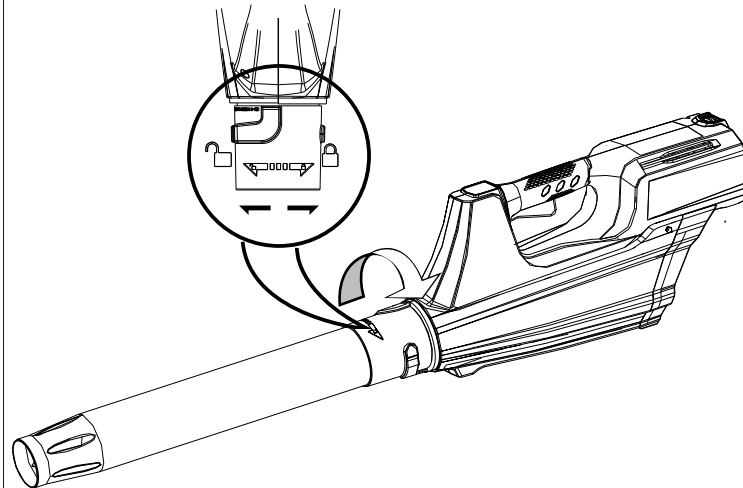

Fig. 4
- Turn the tube in the direction of the arrow until both of the tabs slide into the lock positions. See Figure 4.